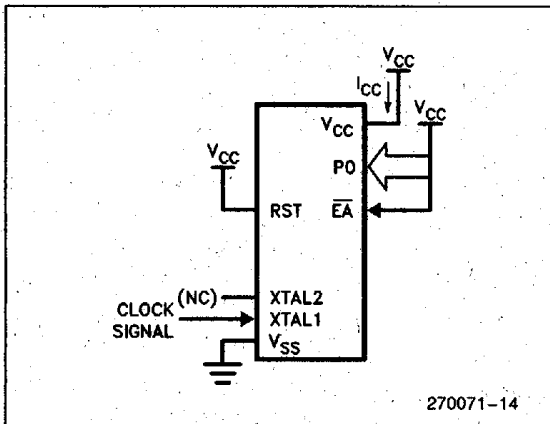

Figure 5. I_{CC} Test Condition, Active Mode. All other pins are disconnected.
3. I_{CC} is measured with all output pins disconnected; XTAL1 driven with TCLCH, TCHCL = 5 ns, $V_{IL} = V_{SS} + 0.5V$, $V_{IH} = V_{CC} - 0.5V$; XTAL2 N.C.; $\overline{EA} = RST = Port 0 = V_{CC}$. I_{CC} would be slightly higher if a crystal oscillator is used (see Figure 5).